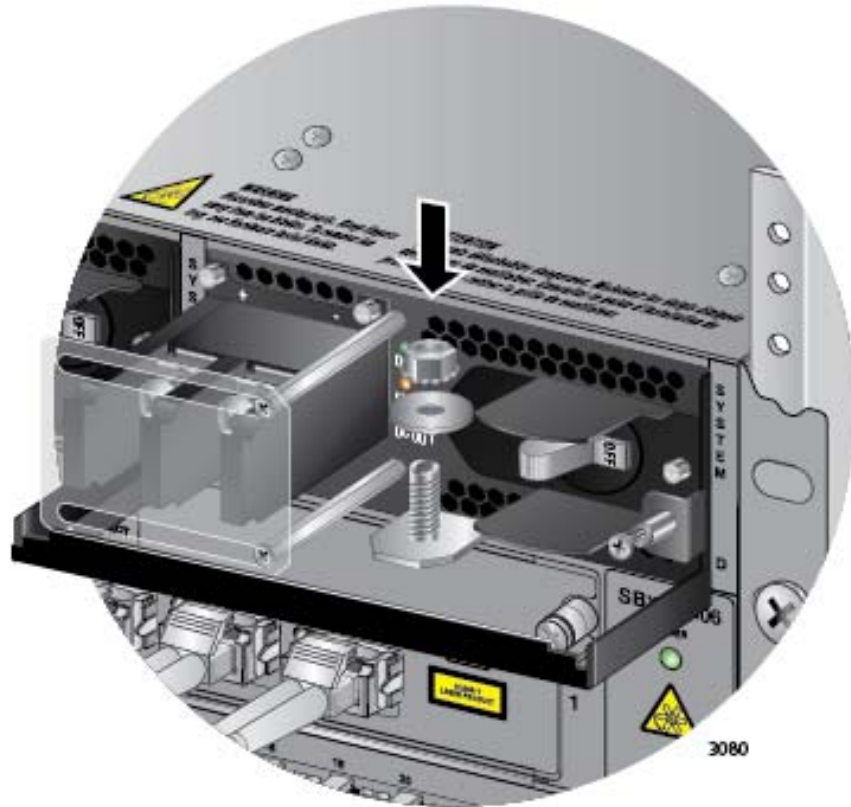

Figure 159. Reinstalling the Nut and Washer on the Grounding Post
10. Reinstall the nut and washer on the grounding post. Refer to Figure 159 on page 244.